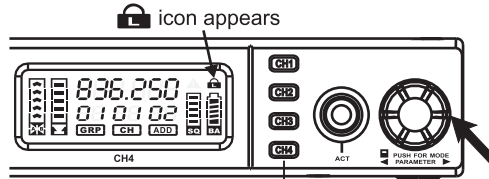

Fig. 17
- (1) Press the rotary knob to select parameters. SQ cursor blinks to denote it can be changed readily.
- (2) Turn the knob right to increase indicator grids and decreases the receiving sensitivity. Turn left to decrease indicator grids and increases sensitivity.
- (3) Press the knob again, SQ cursor stops blinking and saves the SQ value automatically.
(E)  Lock & Unlock Receiver Panel. Fig. 17